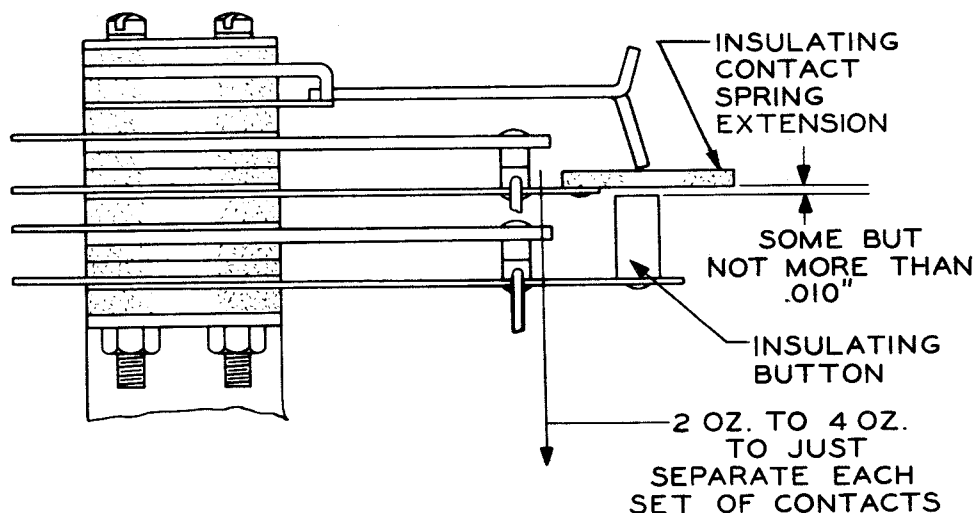

Figure 2
2.10 Control Assembly Contact Spring Clearance: There should be some, but not more than 0.010 inch clearance between the contact-spring insulating extension and the contact-insulating button. (See Figure 2.)
2.11 Control Assembly Contact Spring Tension: Hook a scale on each contact spring in line with the associated contact. It should require a pull of minimum 2 ounces, maximum 4 ounces to just open each set of contacts. (See Figure 2.)